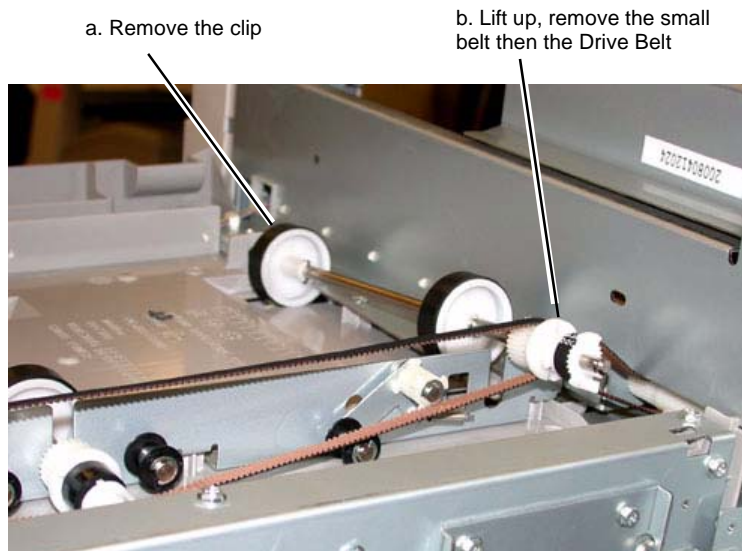

Figure 2 Removing the H-Transport Drive belt
6. Remove the Drive Belt (PL 21.26): (Figure 2)